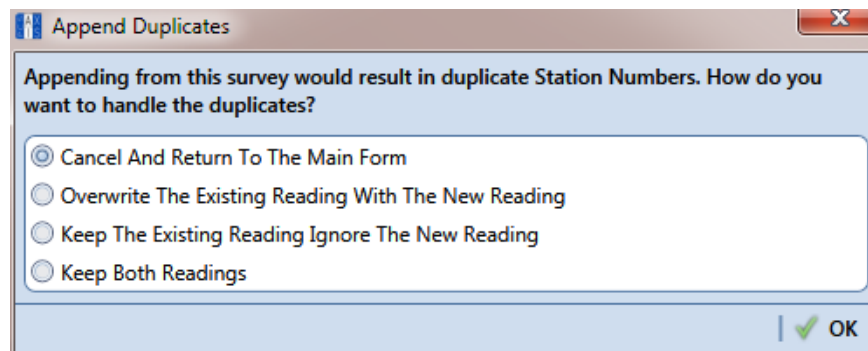

Figure 7-70. Append Duplicates
- 5 Click  **Survey Maintenance** to open the *Survey Maintenance* dialog box. Then click  **Append** (Figure 7-70).